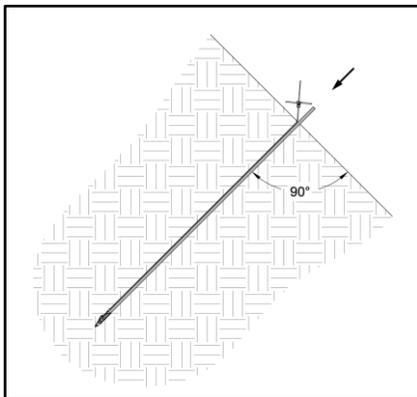
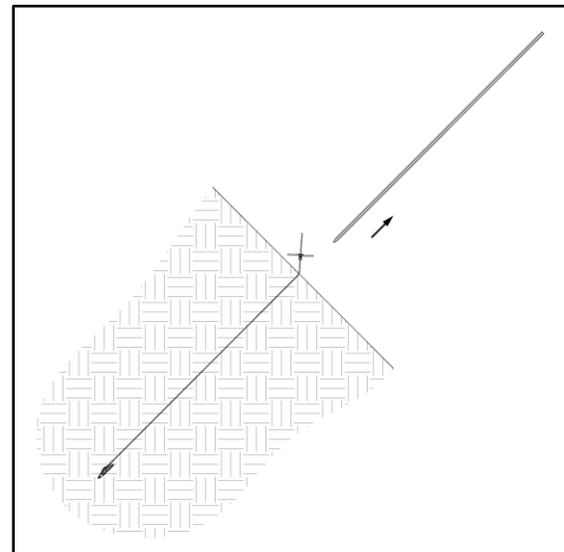

**Figure 5: Insert Drive Steel into Anchor**
**Figure 6: Position Anchor Head / Drive Steel Tip**
1. Insert the tapered end of the drive steel into the hollow cavity of the anchor head. Position the anchor head/ drive steel tip above the ground at the drive location, being careful to lay the cable tendon and load bearing plate (plate) off to the side. (Figure 5 and Figure 6)